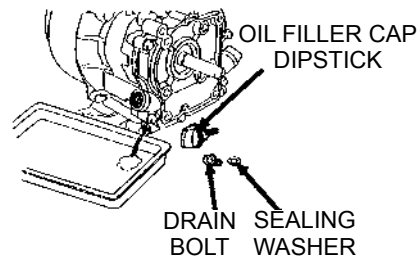

Figure 25. Draining Engine Oil
2. Drain the engine oil when the oil is warm as shown in Figure 25.